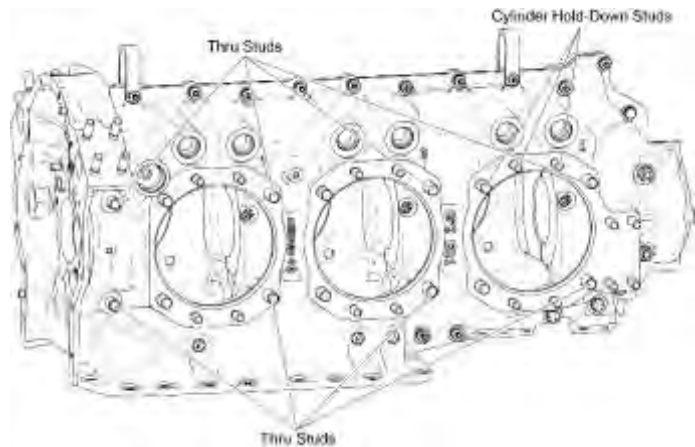

Figure 95
- (9) Install thru-studs on the crankcase in the specified locations in Figure 95 where the studs extend equally on both sides of the crankcase. (An optional Crankcase Thru-Stud Driver ST-317 can be used to install thru-studs.)